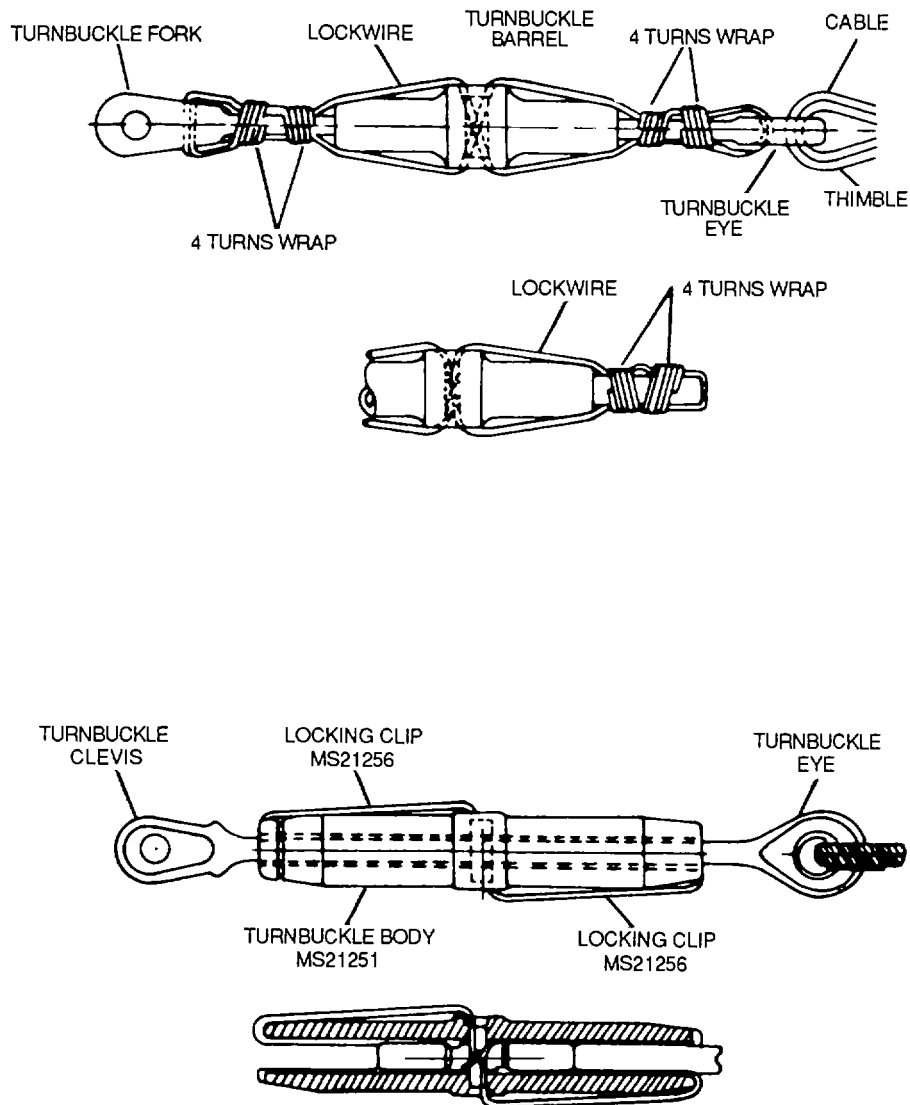

Figure 2-80. Typical Turnbuckle Assemblies
(1) Use a 0.020-inch diameter copper wire when emergency devices such as canopies, exits, and the like require servicing.
(2) Use a 0.020-inch diameter copper wire to secure nonstructural parts such as emergency valves, oxygen regulators, and the like.
(3) Secure first aid kits in accordance with TM 1-1500-204-23-1.
(4) Secure items requiring seal wire to ensure completeness of contents or to determine when containers have been used with 0.020-inch diameter copper wire. Seal with a lead seal.
f. Lockwiring Turnbuckles. The standard procedure for securing turnbuckles is shown in figure 2-80. Employ this procedure when lockwire replacement is required on turnbuckles secured by other methods. Use wire sizes specified as follows: 0.032-inch diameter on assemblies where cable diameter is 1/16-inch, 0.041-inch diameter wire on assemblies where cable diameter is 3/32-, 1/8- or 3/16-inch, and 0.047-inch diameter wire on assemblies where cable diameter is greater than 3/16-inch.